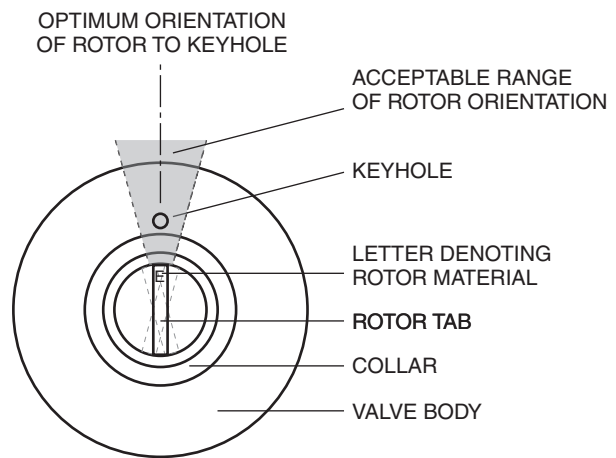

Figure 3: Rotor orientation
1. Insert the rotor in the valve body with the letter denoting the rotor material pointed at the keyhole in the valve body. (**Figure 3**) Be careful not to touch the polished interior surface of the valve body with any of the metal parts of the rotor.
Ideally, the rotor tab should point precisely at the keyhole. However, that is not required; the shaded area in **Figure 3** indicates an acceptable range of placement. Since the tab may rotate to the left a slight amount when the preload is installed, don't start with it nearly out of range in that direction.